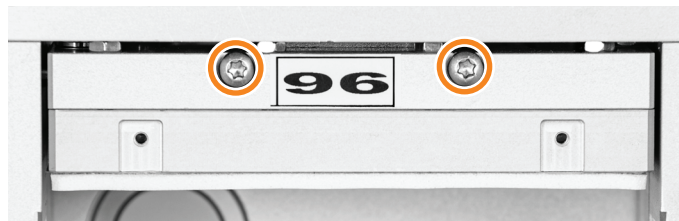

Figure 66. The two screws attaching the pressure head to the pressure unit.
2. Remove the two screws holding the pressure head to the pressure unit using the T20 Torx screwdriver supplied with the system; see Figure 66.